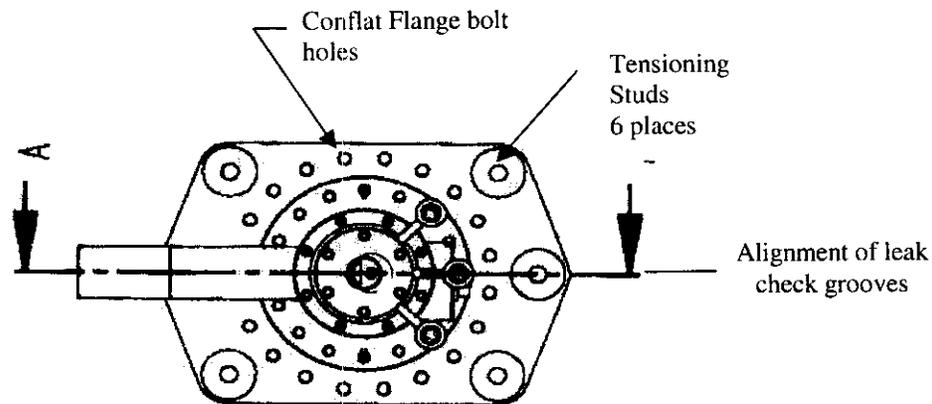

**Figure 1.11** A baffle installed on a power lead.
- 1.11 Install the baffle on the lead with the pointed tips of the threaded rods pointing toward the bottom of the lead. An installed baffle is shown in Figure 1.11.